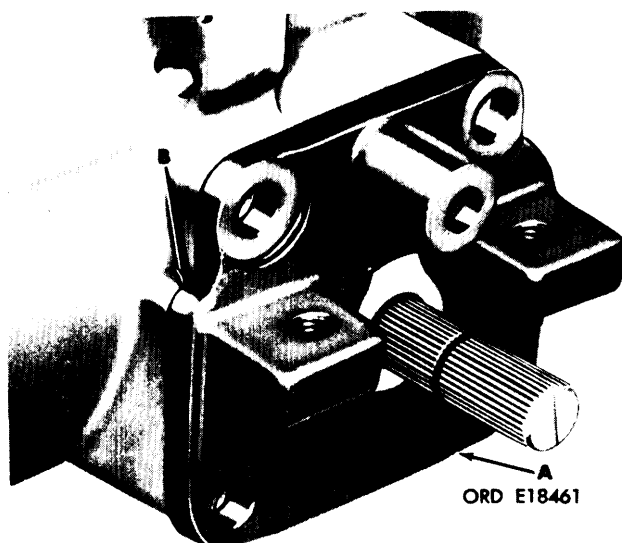

Figure 3-61. Removing operating shaft bearing and associated parts (all pumps except code A).
(9) Refer to figure 3-61. Remove operating shaft and bearing (A) and associated parts. Remove and discard operating shaft bearing gasket (B).